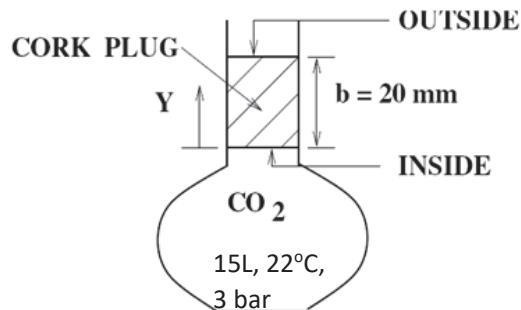

Figure 5 : CO2 diffusion through cork plug
- (b). A 15 liter vessel contains CO2 at 22°C and 3 bar as shown in Figure 5. The vessel is fitted with a 20 mm cork whose surface area is 300 mm2. It was given DCO2-Cork = 1.1 × 10-10 m2/s and solubility (S) of CO2 in the plug = 0.04015 kmol/m3-bar. Determine the following;
*Sebuah bekas 15 Liter yang mengandungi CO2 pada 22°C dan tekanan 3 bar seperti Rajah 5. Bekas ini di pasang gabus 20 mm dengan luas permukaan 300 mm2. Diberikan DCO2-Cork = 1.1 × 10-10 m2/s dan keterlarutan (S) gas dalam gabus = 0.04015 kmol/m3-bar. Tentukan perkara berikut;*